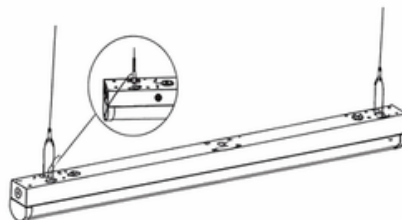

Figure 7
- Step2. Fasten the other end of the installation rope to the lamp (Figure 7)